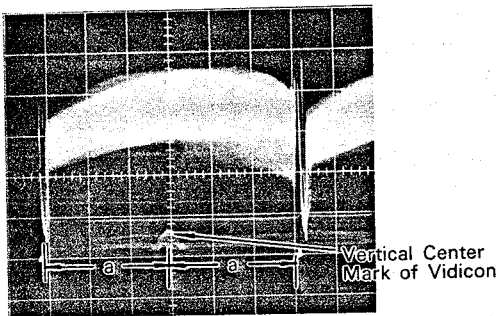

Fig. 6-4-14
- While observing the waveform, adjust V. CENTERING VR226 so that the marker which shows the vertical center of vidicon positions at the center of video signal waveform. (Fig. 6-4-14)